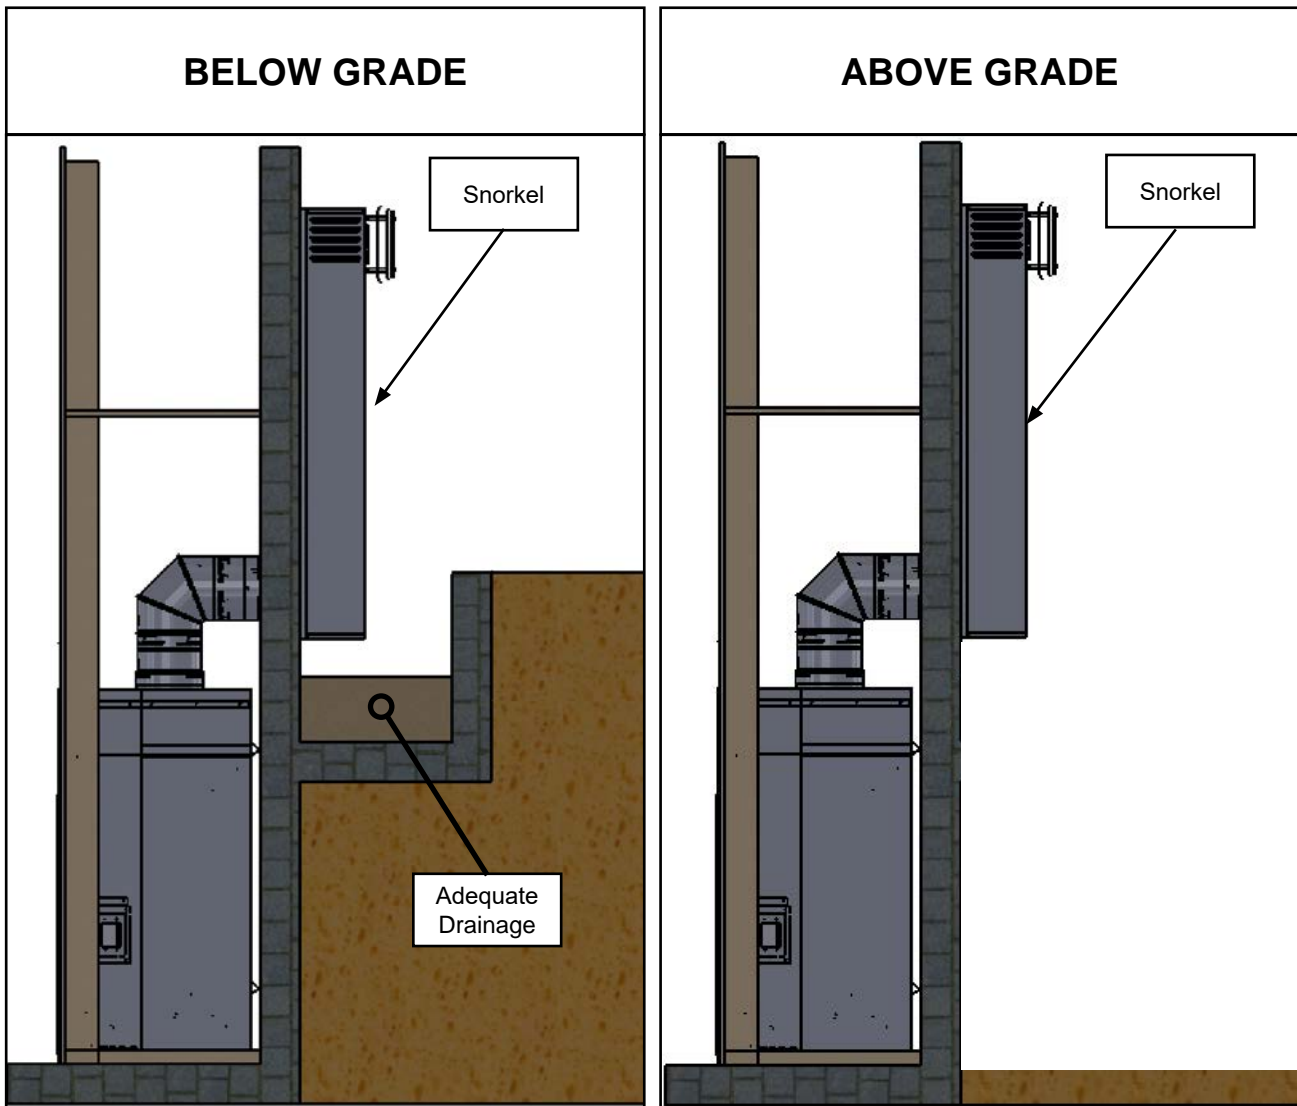

Figure 10.5.01
- A snorkel counts as two 90° elbows out of the total number of allowable elbows in the vent run. For example, the installation in **Figure 10.5.01** shows the use of three (3) 90° elbows
- If the snorkel termination is installed below grade, (IE: basement) proper drainage must be provided to prevent water from entering the snorkel termination (see **Figure 10.5.01**)